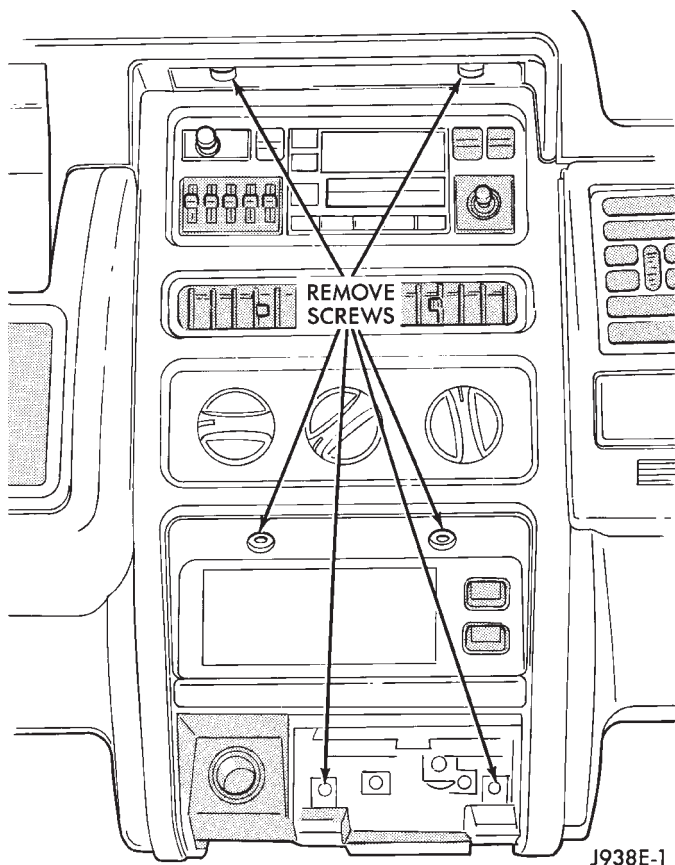

Fig. 1 Remove Center Bezel Retaining Screws
- (1) Disconnect negative cable from the battery.
- (2) Remove ash tray.
- (3) Remove 6 screws holding center cluster bezel (Fig. 1).